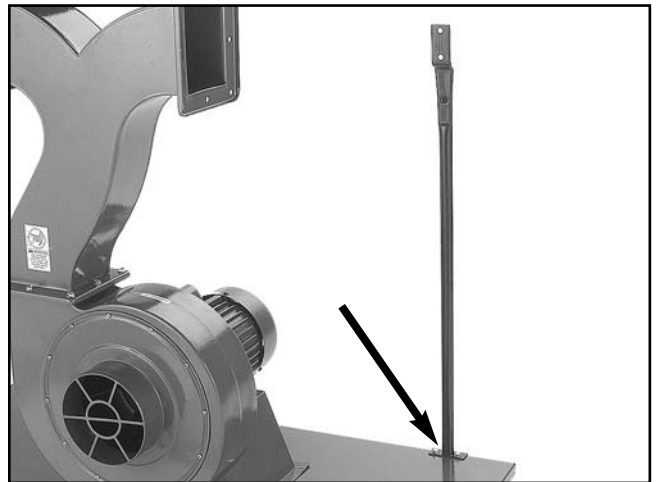

Figure 11. Canister support attached to base.
1. Place the canister support over the holes on the base edge (**Figure 11**).